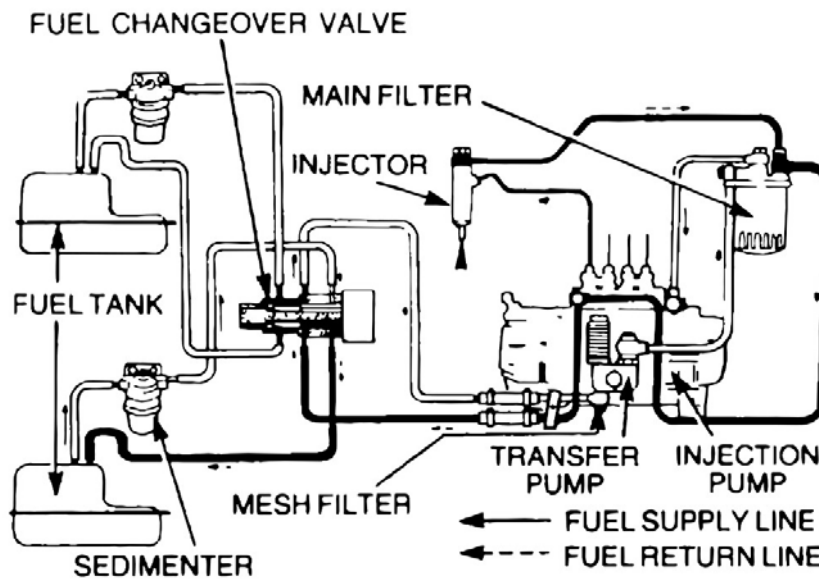

Figure 4 Fuel System
**22. Fuel System Description.** As depicted in Figure 4, an outlet pipe, fitted to the top of each fuel tank, allows the transfer pump to draw fuel from the fuel tank selected by the changeover switch on the dashboard. This switch controls the fuel changeover valve. When the transfer pump is operating, fuel drawn from the selected tank flows, via fuel lines, to a sedimenter (one for each tank) where water and large particles of contaminants are separated from the fuel. Fuel lines carry the fuel from the sedimenter to the fuel tank changeover valve, and from the changeover valve to the transfer pump where it passes through a fine mesh filter (strainer) before entering the pump. The transfer pump provides fuel at a pressure from 176 to 245 kPa to the main fuel filter. The filtered fuel is then supplied to the injection pump where it is pumped under high pressure, approximately 18 000 kPa, to the injectors via high pressure fuel lines.